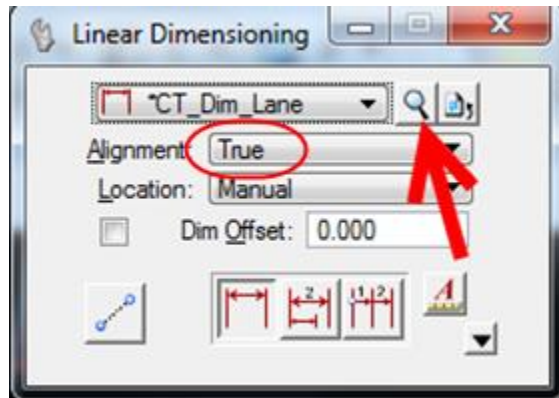

Figure 99 - Linear Dimensioning
3. In the Linear Dimensioning dialog box set the Alignment to True and then click the magnifying glass to open the *Dimension Style* dialog box, see Figure 99.